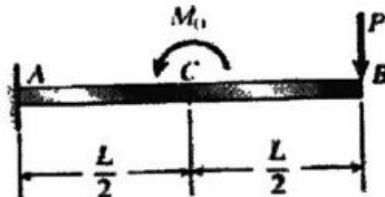

Fig. 3
- (b) A cantilever beam supports a concentrated load P and M_0 as shown in the fig 3.